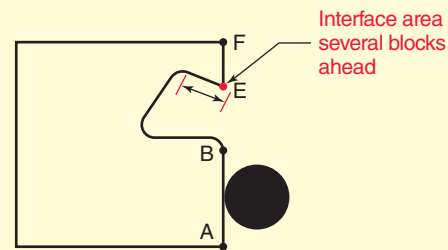

Figure 20-29 Looking ahead, the control may see the interference problem depending on how many blocks it analyzes ahead of the current command from A to B.
Look Ahead Controls On modern controls with **look ahead** capability, one cannot assume the problem is on the line where the control has stalled. Depending on the level of intelligence, most controls look ahead from a minimum of three command lines up to the entire program, as they attempt to perform tool compensation. They read and compensate several lines ahead of the active command line. If not, tool interference such as that shown in Fig. 20-29 can occur.
- **Compensation impossible**—also common for beginners. Here, a cutter has been loaded such that the control cannot use it to compensate the part geometry. See Fig. 20-29.